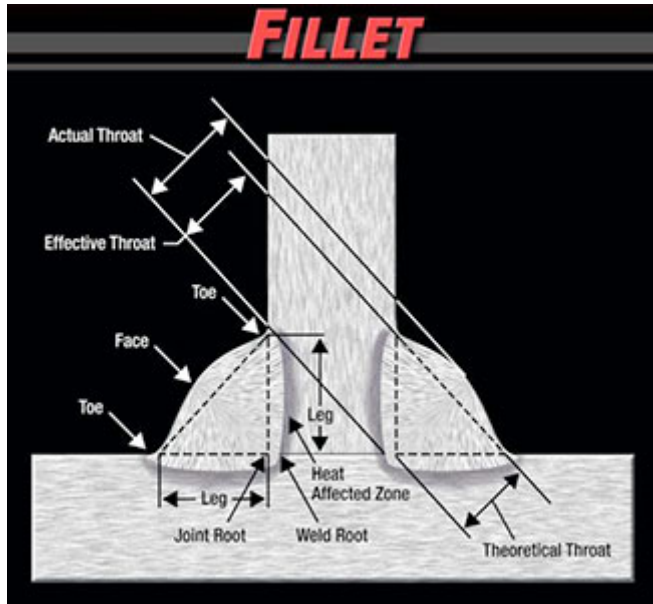
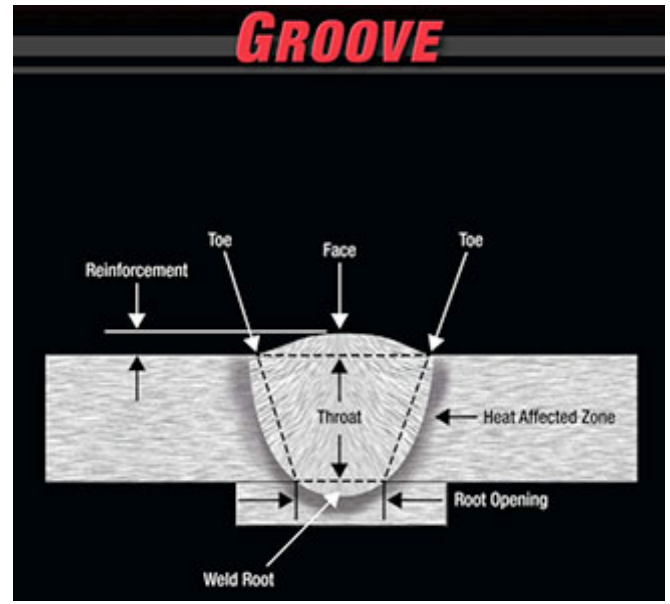
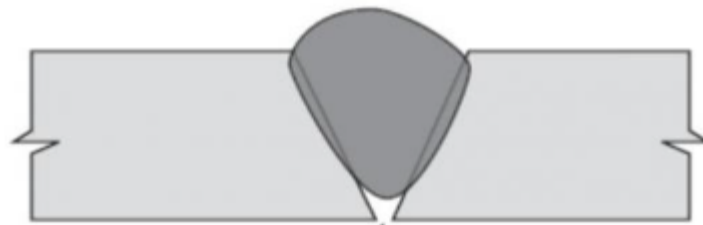

Figure 4: Parts of a Fillet Weld (by Lincoln Electric, Public Domain)
Figure 5: Parts of a Groove Weld (by Lincoln Electric, Public Domain)
Figure 7. Diagram of Inadequate Joint Penetration (by unknown, Public Domain)
Depending on whether you are the welder or the engineer, the through thickness may be referred to as actual throat (welder), effective throat, or theoretical throat (engineer). As welders on the job, we find our welds are sized by leg length for fillet welds (Figure 4) or by throat for groove welds (Figure 5). The importance in understanding these terms is to understand how one inclusion undermines the effective part of the weld. When an inclusion is present the void created by the inclusion removes a certain amount of weld metal. With this removal there is less material present to adequately support the weld as it was designed. The shape of that inclusion most times will have sharp edges or points which create what are known as stress risers, which are points that are likely for stress to be focused and lead to cracking. We can clearly see inclusions in nondestructive techniques such as radiographic a.k.a. x-rays. Many times we can produce inclusions and not be aware of them as they are trapped below the surface. Therefore it is standard practice to do routine inspections using different techniques to look below the surface and ensure the absence of these inclusions. When inclusions are present they must be removed mechanically or thermally and replaced with new sound material.
**Inadequate Joint Penetration** (Figure 7) is when the weld does not penetrate deep enough into the weld joint to provide adequate fusing through the metal. Depending on the weld joint, fillet weld (Figure 4) versus groove weld (Figure 5), the weld did not penetrate fully and leaves an un-fused edge as you can see in the graphic below. The un-fused edges create stress risers that can lead to cracks and failure of the joint. Each and every weld has an intended through thickness of weld metal which requires a certain amount of fusion into the joint. If we fail to reach that level we are undermining the strength and this can lead to failure points.